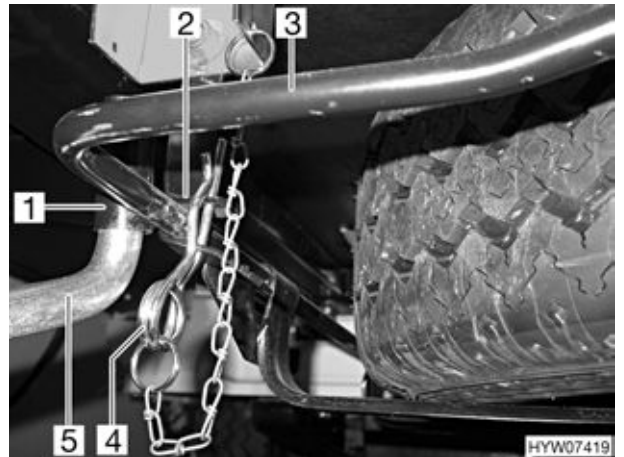

Fig. 197 Spare wheel in the basket
- Pull out the splint (Fig. 197,4) from the holder (Fig. 197,2) for the basket (Fig. 197,3).
- Insert the wheelbrace (Fig. 197,5) from the on-board toolset into the holder (Fig. 197,1) on the basket.